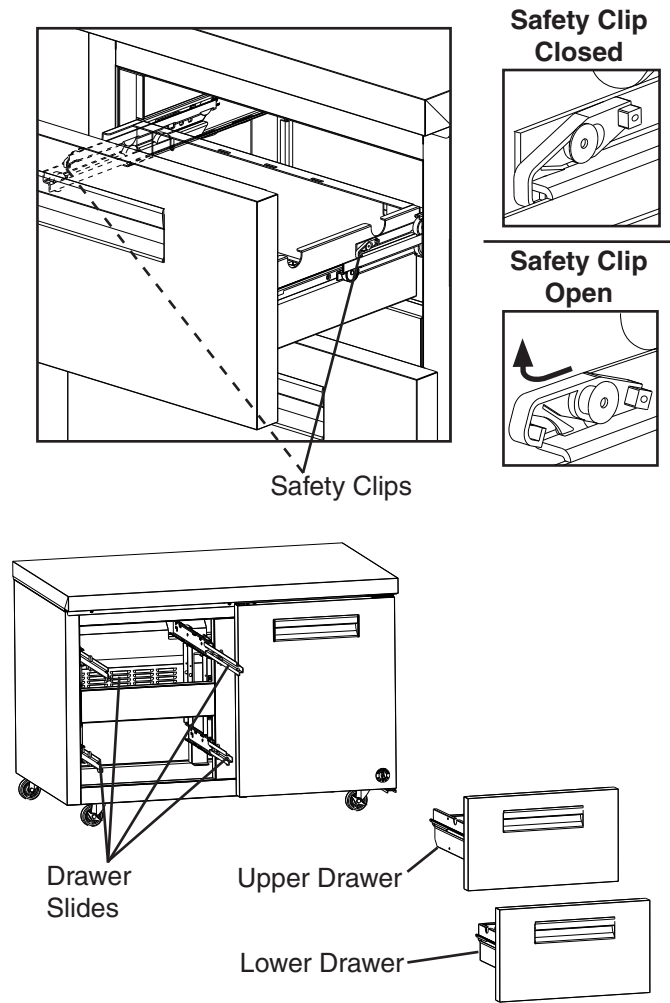

Fig. 20
2) Remove the drawers. Pull the drawer out to its fully extended position. Open the safety clips (one on each side) by sliding them forward, then rotating them up. See Fig. 20. Lift up on the handle slightly, then pull to disengage the drawer. Be sure to support the rear and front of the drawer while removing it. **WARNING! Be sure to close the safety clips when reinstalling the drawer.**